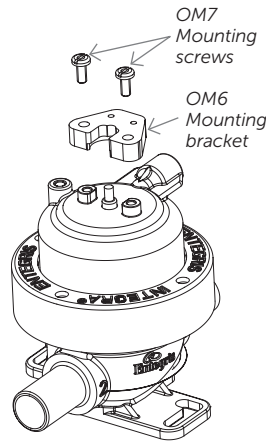

Figure 4.
19. For Omron kit only, install the mounting bracket (OM6) using 2X #8-32 mounting screws (OM7). Refer to Figure 4.